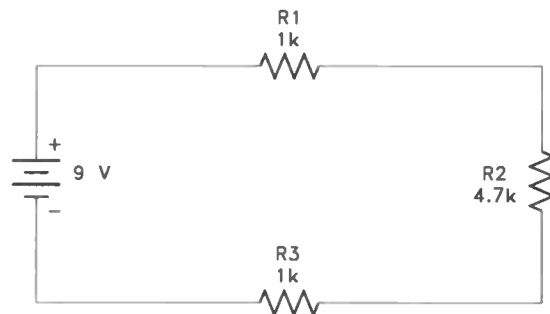
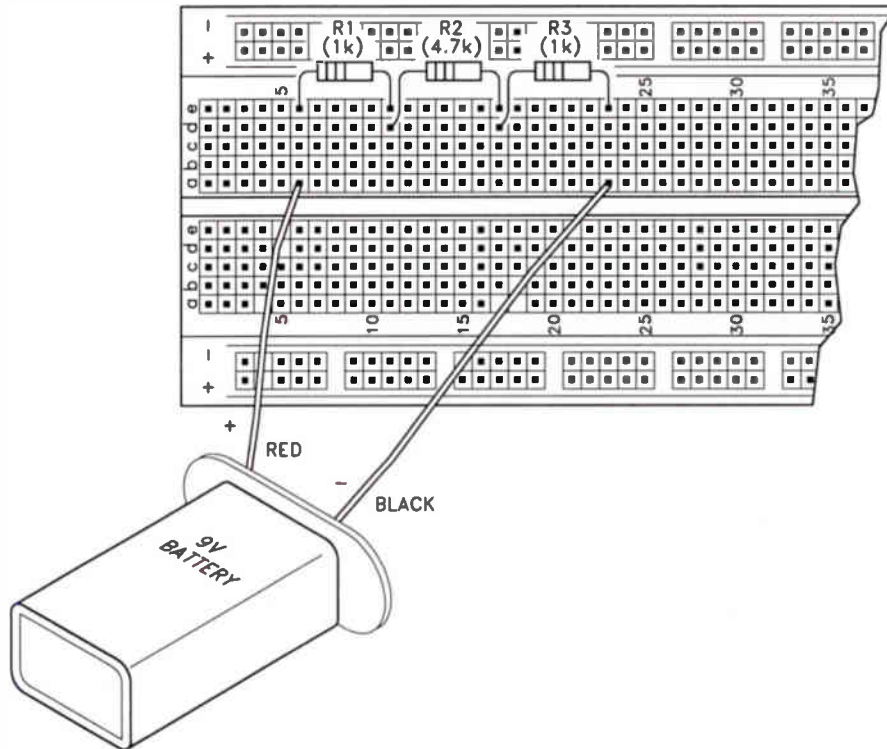

Figure 4-1. A schematic diagram of the circuit for Experiment 4.
Figure 4-2. An illustration of the circuit for Experiment 4.
Step 1. Build the circuit shown in Figure 4-1. The diagram for this circuit is shown in Figure 4-2, on the next page. Notice the polarity of the battery. Also, the red meter probe should be reconnected to the V input jack. Set your DMM selector switch to the 20 V range.